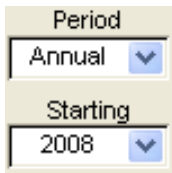

Figure 34—Selecting time period
1. Click on the arrow next to the Period field; select a period from the pull-down menu (see Figure 34).
2. Click on the arrow next to the Starting field; select a starting year from the pull-down menu (see Figure 34).
3. Click on the arrow next to the Period field; select User Defined from the pull-down menu (see Figure 34).